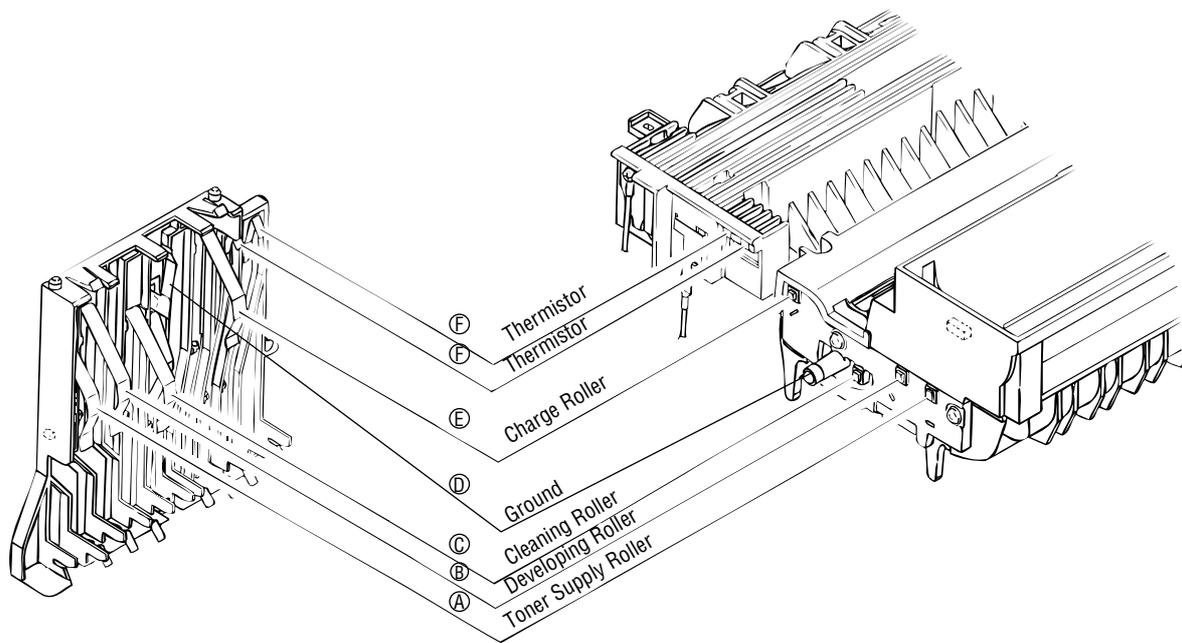

Figure 6-5
- No Is the contact of the cleaning roller of the image drum cartridge contacted with e contact assembly properly? (See Figure 6-5 **C**.)
- Yes Is the contact of the image drum cartridge contacted with the ground contact properly. (See Figure 6-5 **D**.)